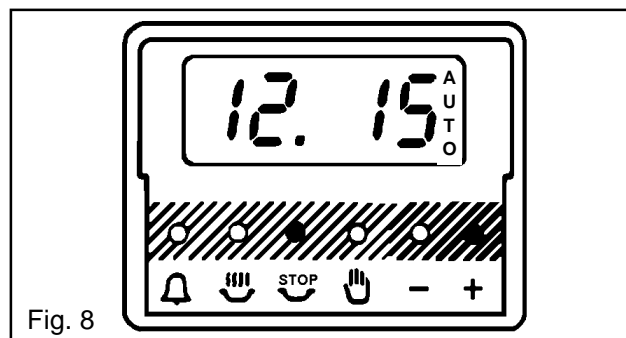

Fig. 8
- v) Set the STOP time. Press the stop time button (🛑) press the increase control ( + ) until the required stop time is displayed, e.g. 12.15 p.m. as Fig. 8. If necessary depress the decrease control ( - ) until the correct time interval is achieved.